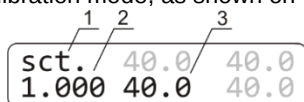

Figure 4. Display in calibration mode: 1. Calibration mode indicator; 2. Calibration coefficient; 3. Temperature with current coefficient
- 6.2 To change the calibration coefficient, hold the **⌘ RUN/STOP** key pressed for more than 8 s to activate calibration mode, as shown on figure 4).
Note. Values marked in grey on figures 4 and 5 are not used in calibration and are meant for service engineers.
- 6.3 **Restoring factory settings.** Set 1.000 value using the **▲** and **▼ T, °C** keys as shown on fig. 4/1 to restore the factory settings. Press the **▶/■ RUN/STOP** key once to save the changes and exit the calibration mode.
- 6.4.5 Hold the **⌘ RUN/STOP** key pressed for more than 8 s to activate calibration mode (figure 4).